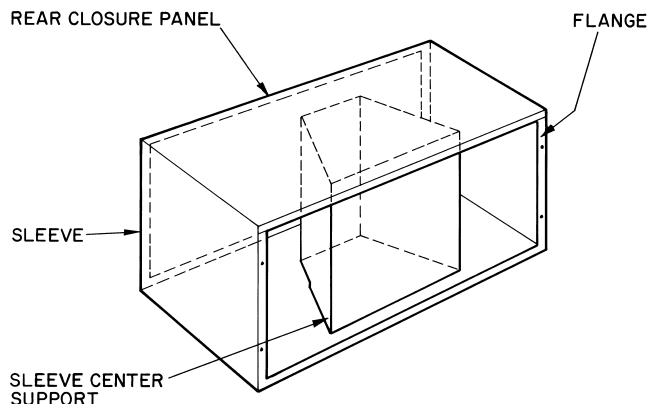

Fig. 1 — Wall Sleeve with Sleeve Center Support
1. Remove corrugated sleeve center support. See Fig. 1. If chassis is not to be installed at this time, save sleeve center support. If chassis is to be installed at this time, discard sleeve center support.